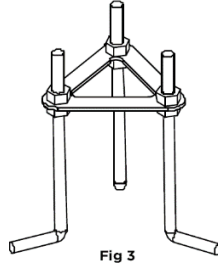

Fig 3
- Prepare site. Assemble the anchor bolt carrier (Fig 3) and use it to determine the placement of the anchor bolts in the concrete.